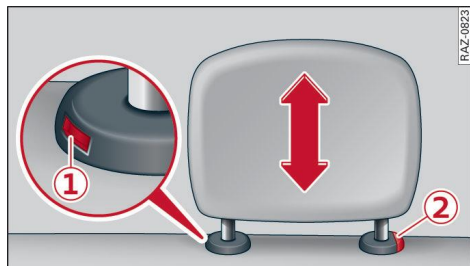

Fig. 54 Rear seat: Operating the head restraint
- Use a suitable tool from the vehicle toolkit or open the blade of the vehicle key or emergency key and press it into the release point (1) ⇒ Fig. 54 on the inside or outside of the base.
- Press the button (2) and pull the head restraint out of the backrest ⇒ ⚠ in General information on page 65.